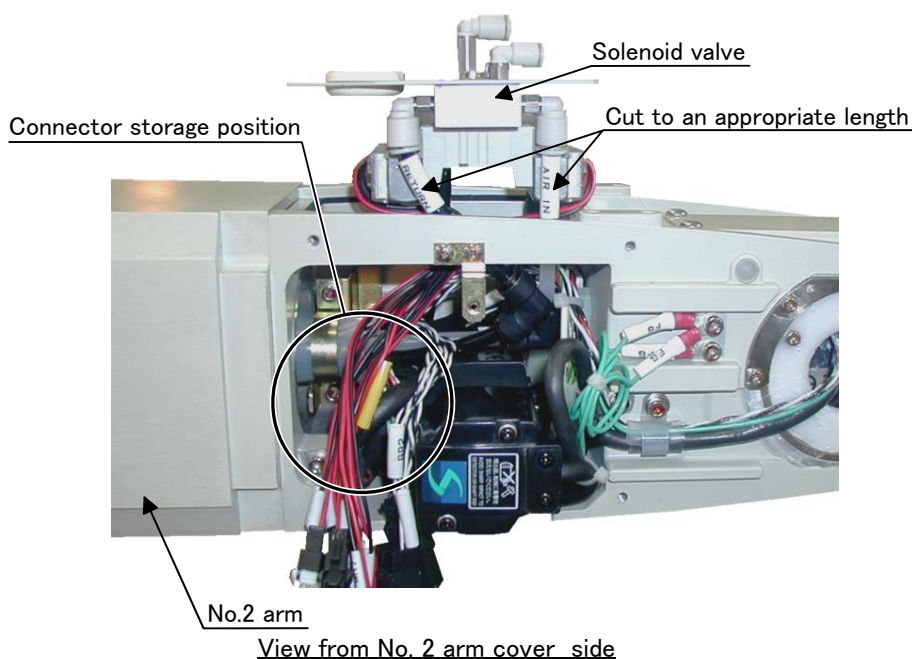

Fig.3-2 : Solenoid valve installation diagram details 1
Fig. 3-1 and Fig. 3-2 shows the solenoid valve installation procedures and the solenoid valve connector connection procedures. The installation procedures are as follow. This work must be carried out with the controller power turned OFF.
- 6) Connect the connectors of "GR1" and "GR2" stored in section A to the connectors of "GR1" and "GR2" coming out of the solenoid valves. Store the connectors near the location marked with \bigcirc shown in Fig. 3-2.